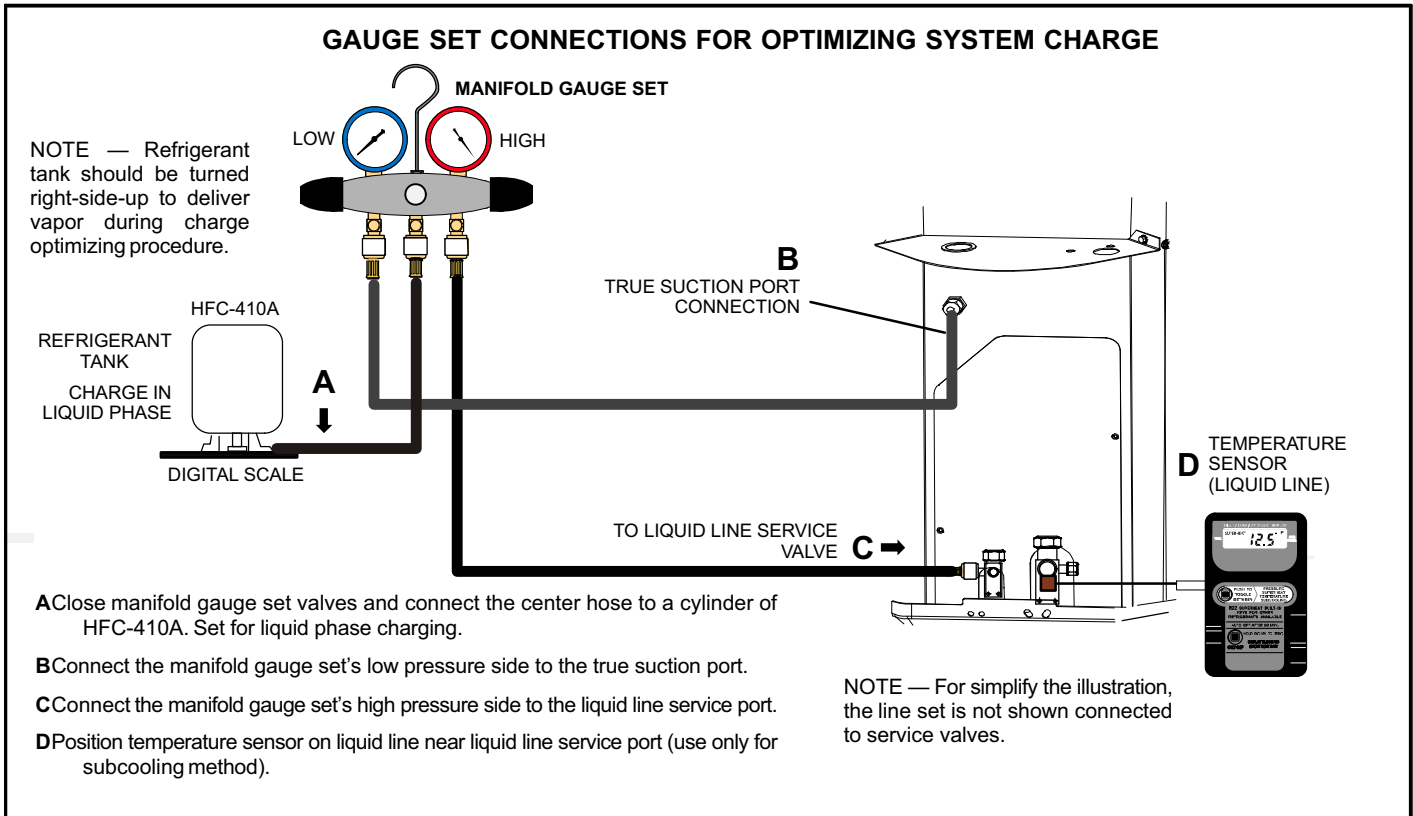

FIGURE 16
6. Connect manifold gauge set for testing and charging using figure 16 as a guideline.